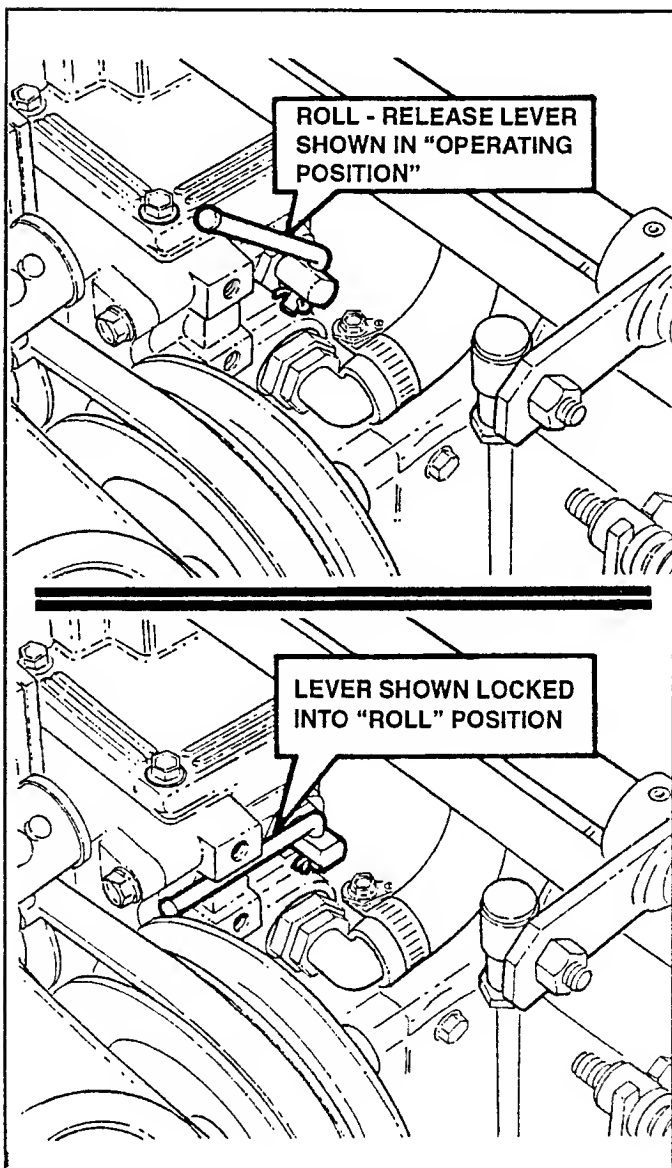

FIGURE 5.1
1. Check position of Roll-Release Levers. Make certain they are in "Operating Position". See Figure 5.1.